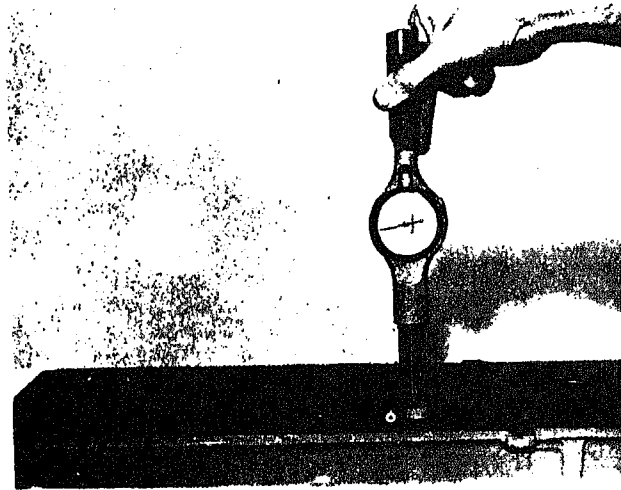

Fig. 1-2-1. Measuring liner bore
- 5. Check worn liners with dial bore gauge, Fig. 1-2-1. If liners are worn more than 0.004 in. [0.1016 mm] in excess of new liner maximum diameter, replace or hone to next oversize. See Table 1-2-1 for new-liner dimensions. Pistons for oversize liners are available in 0.020, 0.030 and 0.040 in. [0.5080, 0.7620 and 1.0160 mm] oversizes.